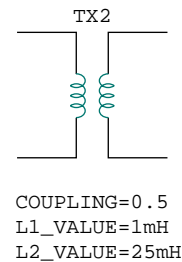

Figure 13.51 Linear transformer XFRM_LINEAR.
2. Hit (enter) or click **OK** and place the K_LINEAR symbol on the schematic, as shown in Fig. 13.51. (Notice that K_LINEAR is not a component and therefore has no pins.)
For the air-core transformer, the partname is XFRM_LINEAR. It can be inserted in a circuit by selecting **Draw/Get Part Name** and then typing in the part name or by selecting the part name from the analog.slb library. As shown typically in Fig. 13.51, the main attributes of the linear transformer are the coupling coefficient k and the inductance values $L1$ and $L2$ in henries. If the mutual inductance M is specified, its value must be used along with $L1$ and $L2$ to calculate k . Keep in mind that the value of k should lie between 0 and 1.